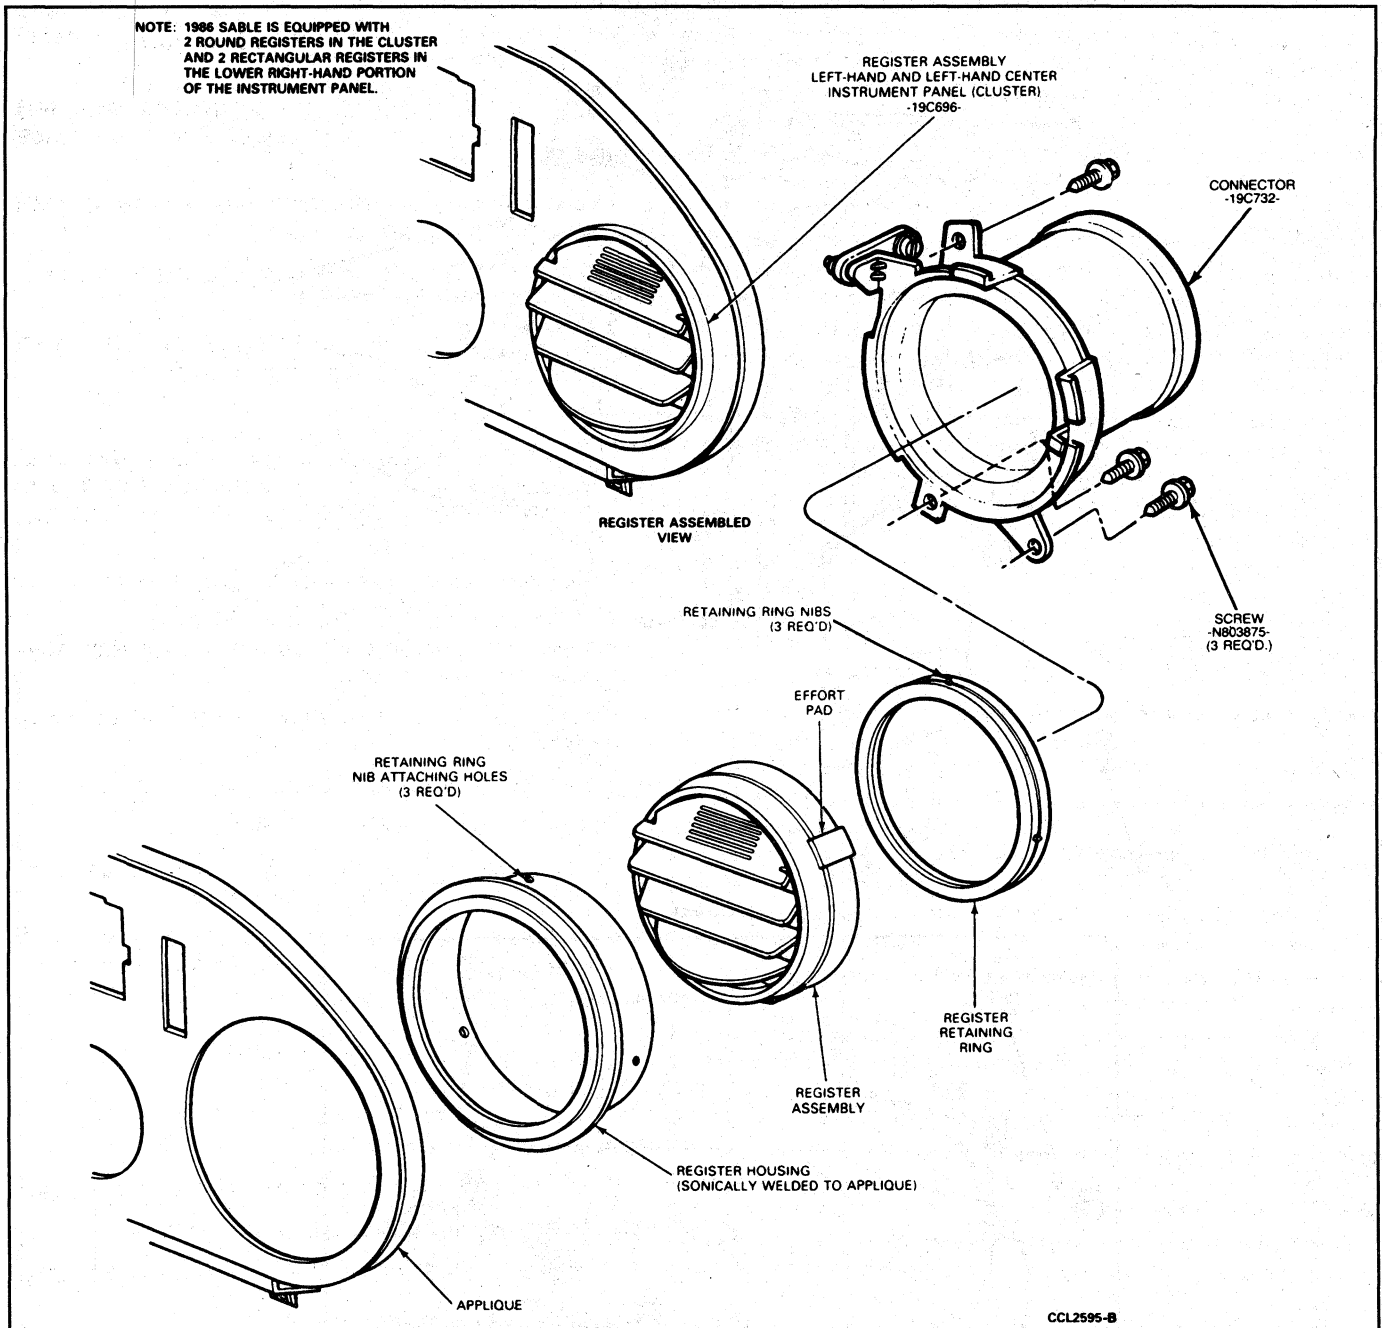

FIG. 23 Register Assembly, Round—Removal
1. Remove plenum, defroster nozzle and register ducts (Fig. 23).
1. Remove instrument panel applique (Fig. 23).